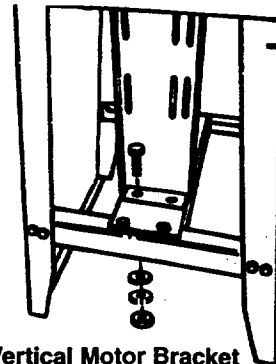

Figure 5 - Install Vertical Motor Bracket
- Attach vertical motor bracket to lower motor bracket (Figure 5) using the slots on the lower motor bracket, two carriage bolts, $\frac{13}{32}$ " flat washers, $\frac{5}{16}$ " lockwashers and $\frac{5}{16}$ "-18 hex nuts. Hand tighten hex nuts.